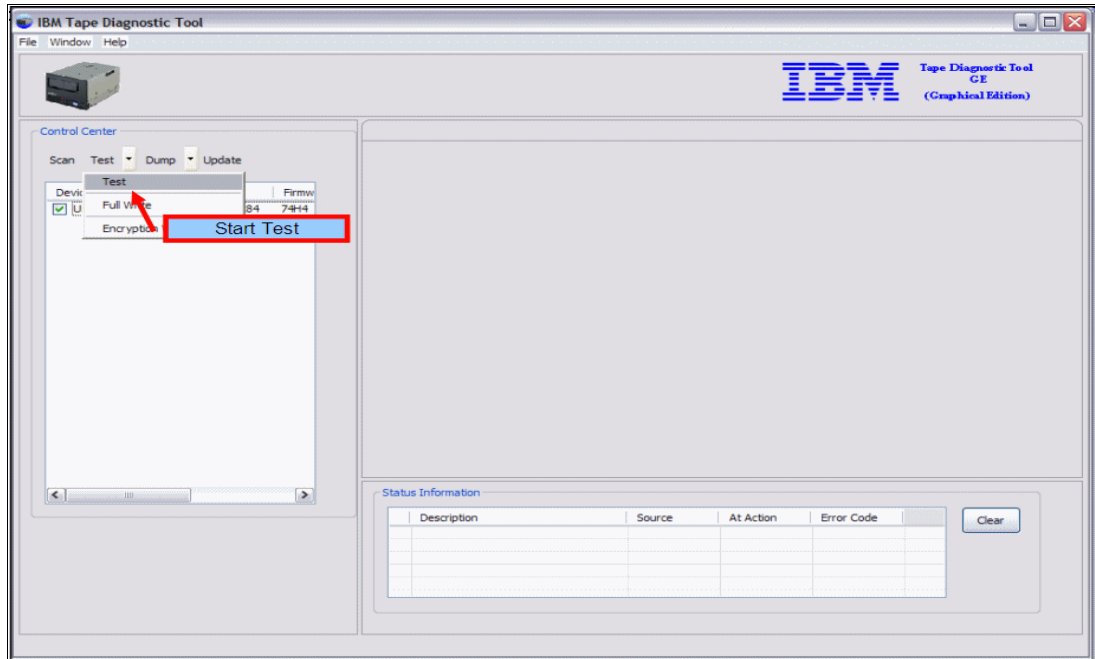
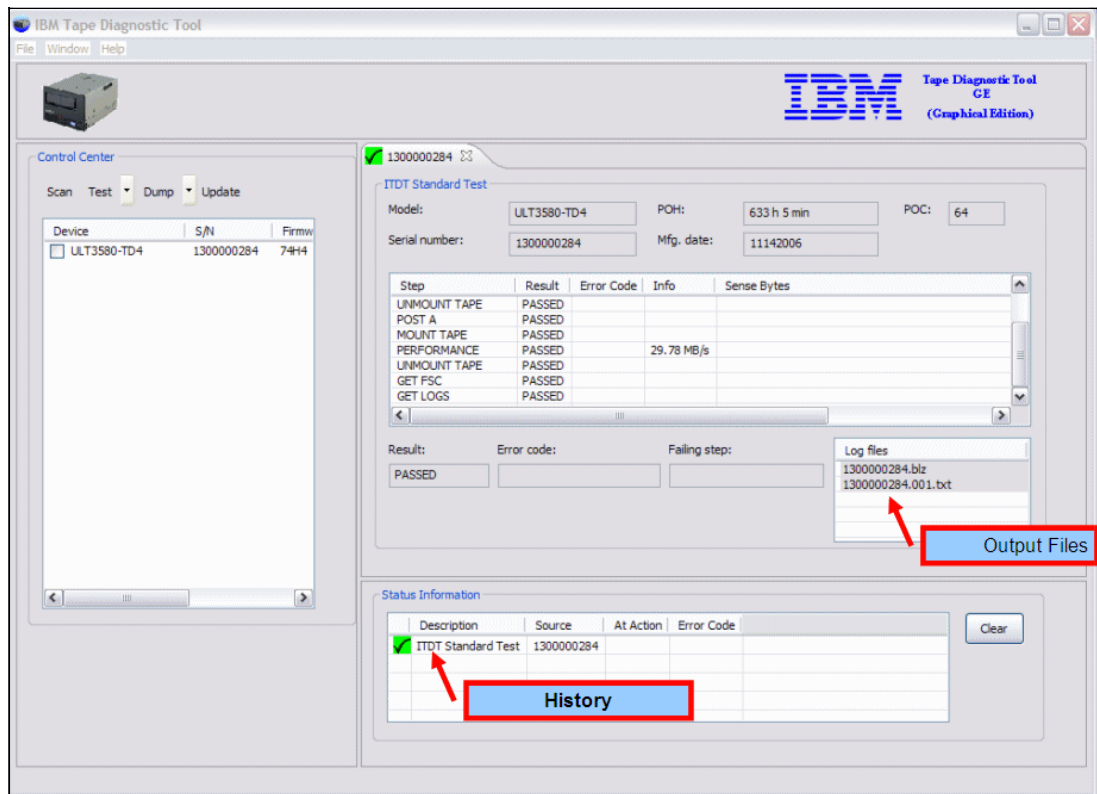

Figure 13-12 ITDT-GE Test menu
Figure 13-13 ITDT-GE Test results menu
ITDT-GE Tests	This function has a pull-down menu from which you can run Standard, Full Write, and Encryption tests. These tests are identical to the tests that are described in “Using ITDT Standard Edition (SE)” on page 389. Refer to Figure 13-12 on page 393 and Figure 13-13 on page 393.
Figure 13-12 on page 393 and Figure 13-13 on page 393 show you the ITDT-GE Test panels.